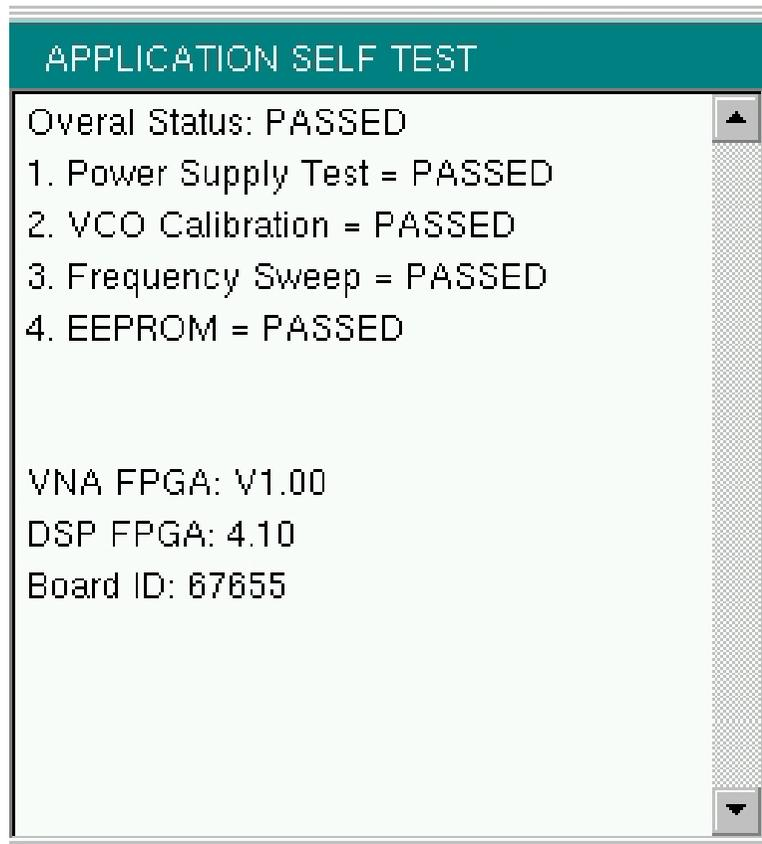

Figure B-2. Application Self Test Results Window (VNA mode)
To run the application self test, press **Shift** and **System** (8) and then Application Self Test from within the desired mode. When you are in Vector Network Analyzer mode, you will see the results window that is shown in Figure B-2 (note that your instrument display may differ from this image), which summarizes the status of several key functions that are specific to this application.